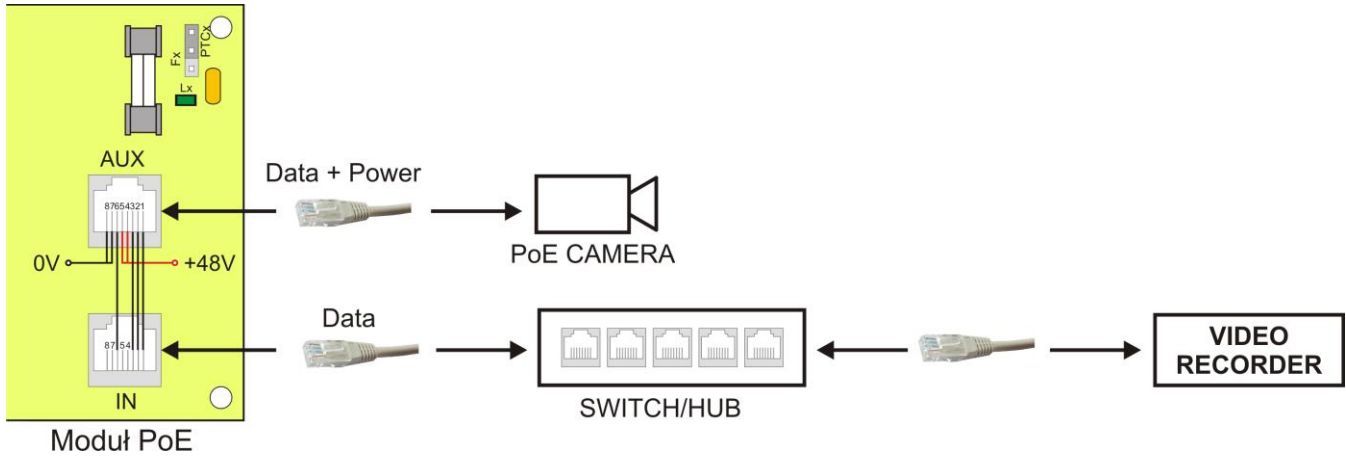

Fig. 5. Connection of cameras and network devices to the IN and AUX terminals.
5. Connect the network cables (Ethernet) to the PoE module: supply voltage is present only at the AUX sockets and the cameras should be connected to them. Pin assignment of the AUX and IN sockets is shown in the Figure 5: